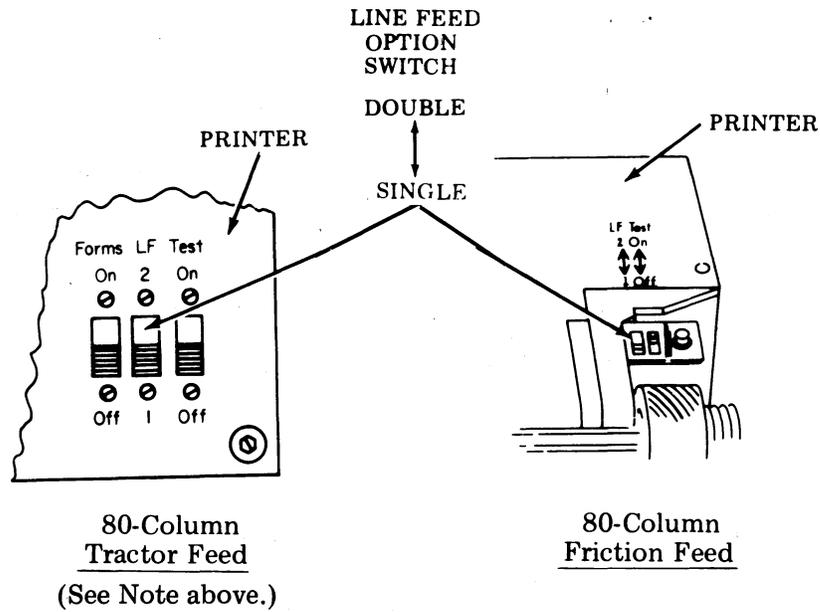

Fig. 102
4.27 For location of "Forms" and "LF" switches on all 80-column printers, see Fig. 102.